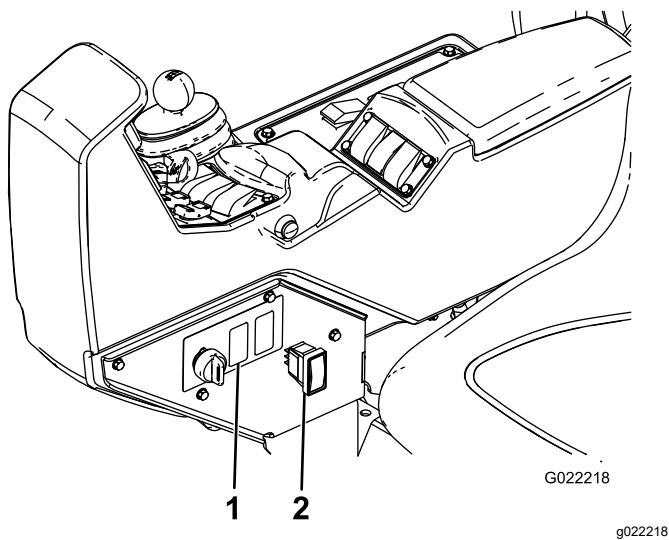

Figure 29
3. Locate the plug where you will install the rinse-tank switch at the left side of the console (Figure 29).
4. Remove the plug from the side of the console (Figure 29).
7. Through the opening in the console, connect the 8-pin connector of the 3-position rocker switch into the 8-socket rinse tank connector (Figure 29).